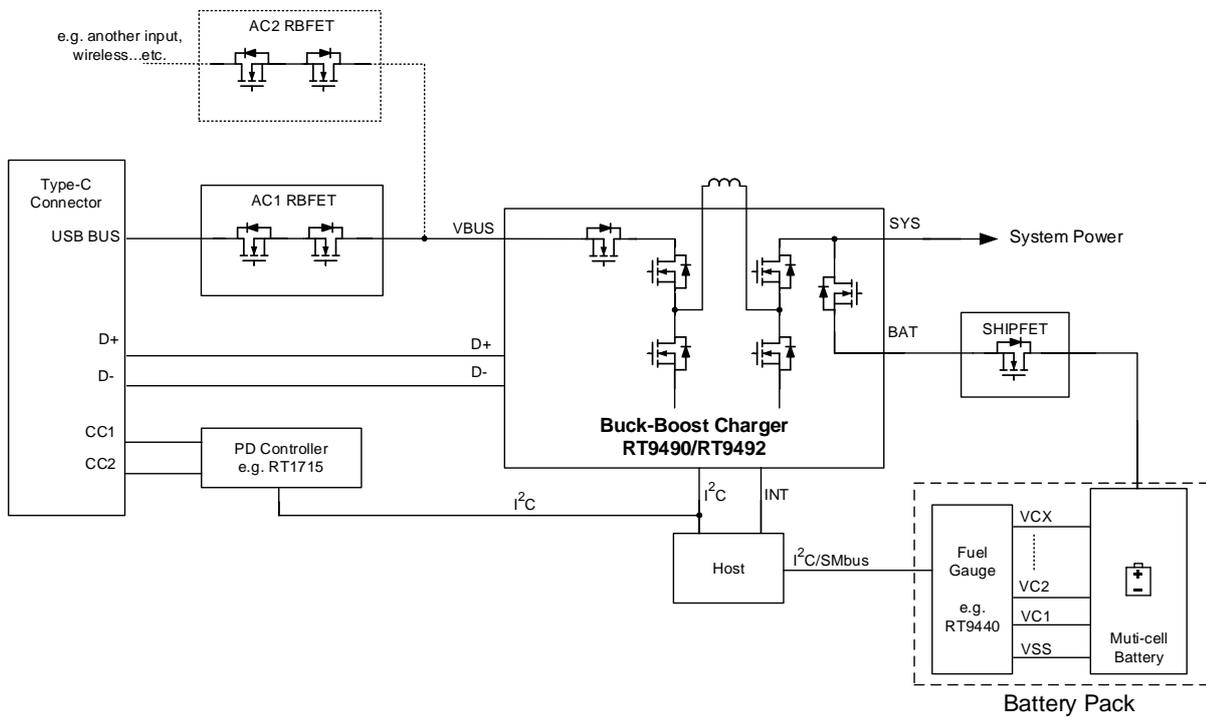

Figure 2. Charging System with PD Controller
Moreover, for USB Type-C, a PD controller can be used to communicate with the adapter by USB Type-C and Power Delivery (PD) protocol, such as the RT1715. A fuel gauge IC can be used in battery pack to calculate the SOC of the multi-cell battery, such as the RT9440. Figure 2 shows the charging System with a PD Controller.